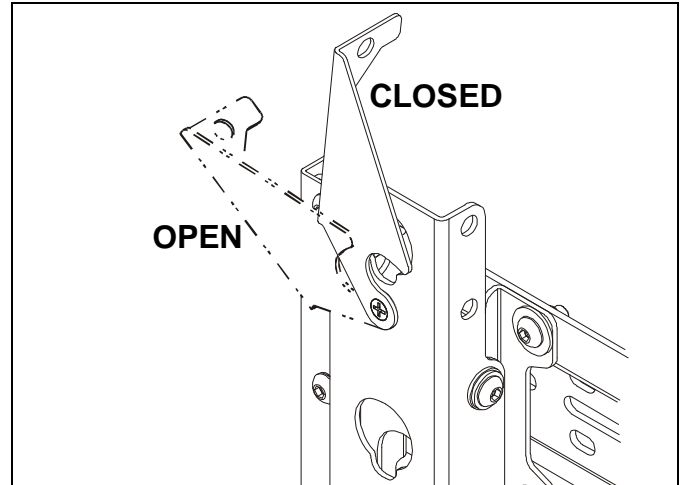

Figure 14
2. Move latching flags on mount to the OPEN position. (See Figure 14)
7. Move locking flags to CLOSED position and lock. (See Figure 14)